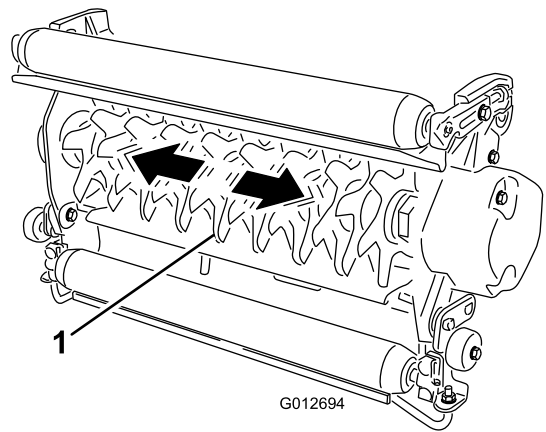

Figure 9
1. Hold on to the reel shaft and try to move the reel assembly side to side (Figure 9).